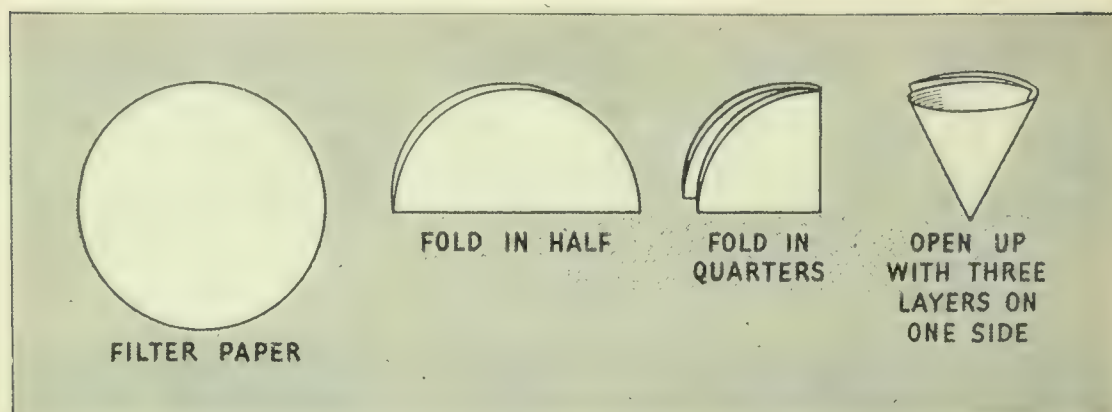

FIG. 21. Directions for folding filter paper
b) Line a clean glass funnel or a small tin funnel with *filter paper* or clean towel paper and place the funnel in a test-tube. Be sure to fold the paper as shown in Figure 21 so that no material can get through the funnel without going through the paper. Wet the paper with clear water so that it will stay in place in the funnel. Carefully